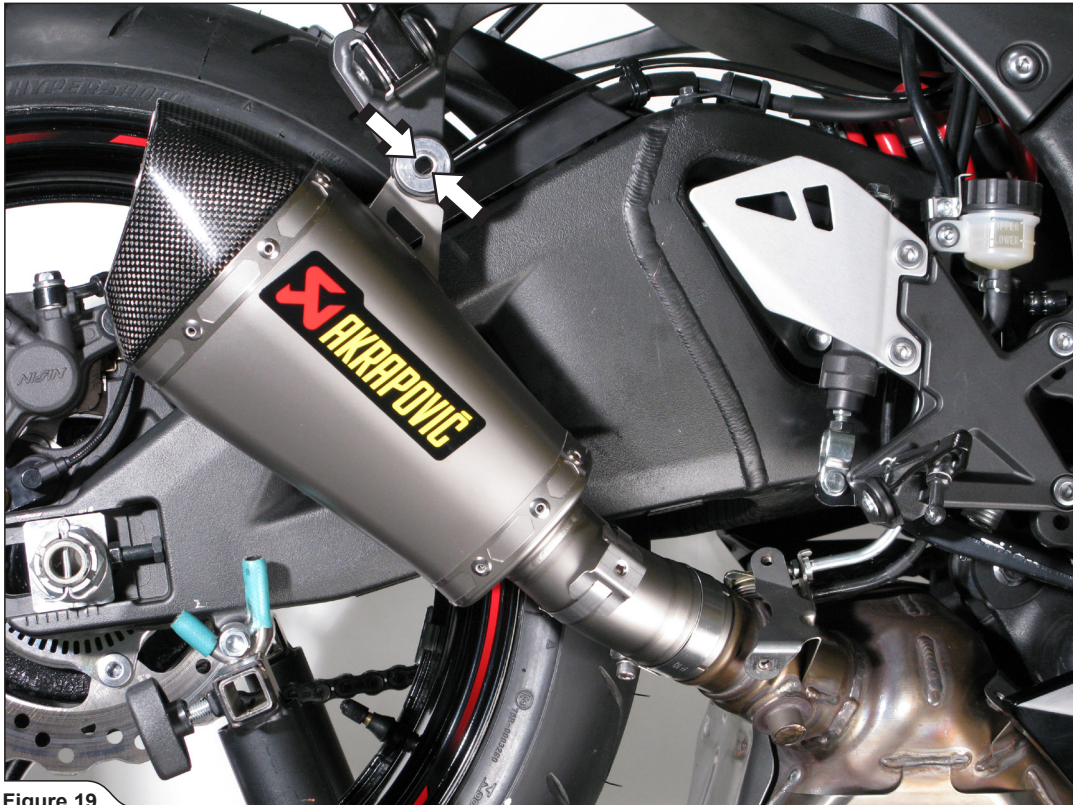

Figure 19
9. Slide the muffler onto the outlet side of the collector (Figure 19).